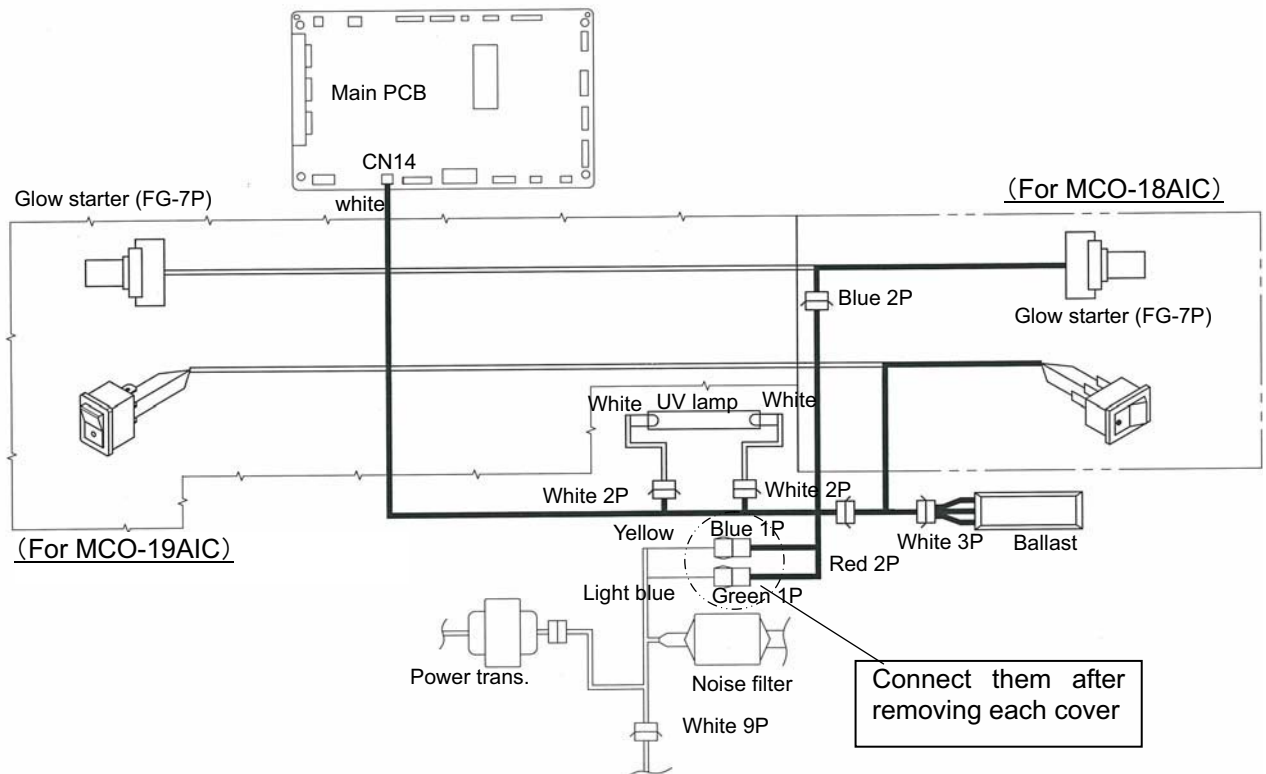

Fig. 8
9. Connect each lead wire connectors of Ballast and Glow Ass'y as shown in Fig. 8